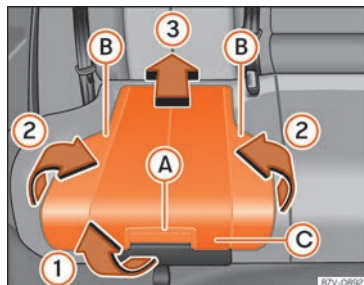

**Fig. 32** Integrated child seat: lift the cushion.
- Pull the unlock lever » **Fig. 32** (A) on the cushion in the direction of the arrow » **Fig. 32** (1).
- Fold both sides »» Fig. 32 (B) up in the direction of the arrow »» Fig. 32 (2).
- Push the cushion »» Fig. 32 (C) back in the direction of the arrow »» Fig. 32 (3) until it engages.